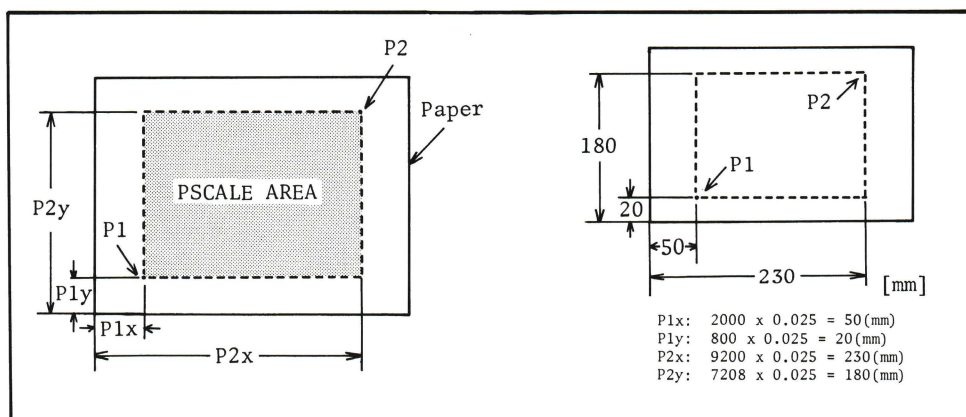

Figure 5-3. Plot Area
The plot area ( the data sent to the plotter is drawn in the plot area ) is defined by P1 and P2, as shown in Figure 5-3. Press '**PLOT AREA**' softkey, the **PSCALE** command will be displayed as follows.
**P1x, P1y, P2x, and P2y** are defined as shown in Figure 5-3. In the PSCALE command, if no values are entered, the default values of 2000, 800, 9200, and 7208 are displayed for **P1x, P1y, P2x** and **P2y**, respectively.